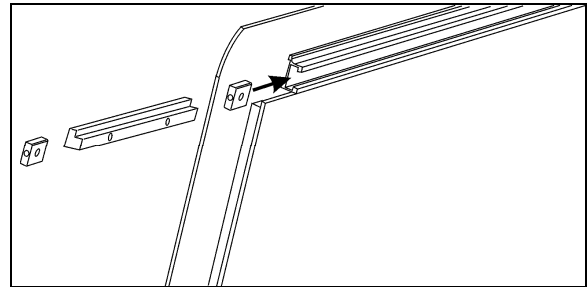
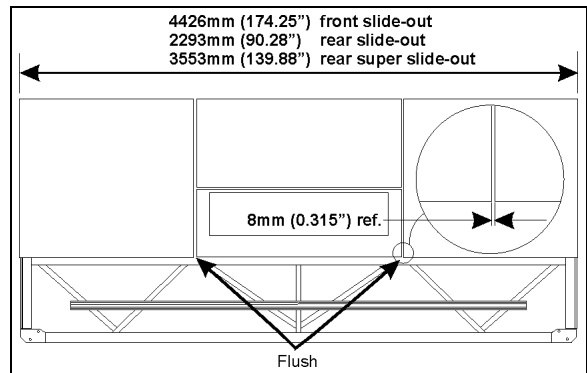

FIGURE 64 : FACE WINDOW INSTALLATION - ANCHORING BLOCKS
FIGURE 65 : FACE WINDOW INSTALLATION
9. **HALF-WINDOW ONLY:** insert anchoring blocks in window extrusion (see FIGURE 64);
2. Insert anchoring blocks in window extrusion (see FIGURE 64) and install window with the lower edge flush with the sliding or awning window (see FIGURE 65);
3. Leave a gap between the face window and the sliding/awning window according to the slide-out overall length (see FIGURE 65);